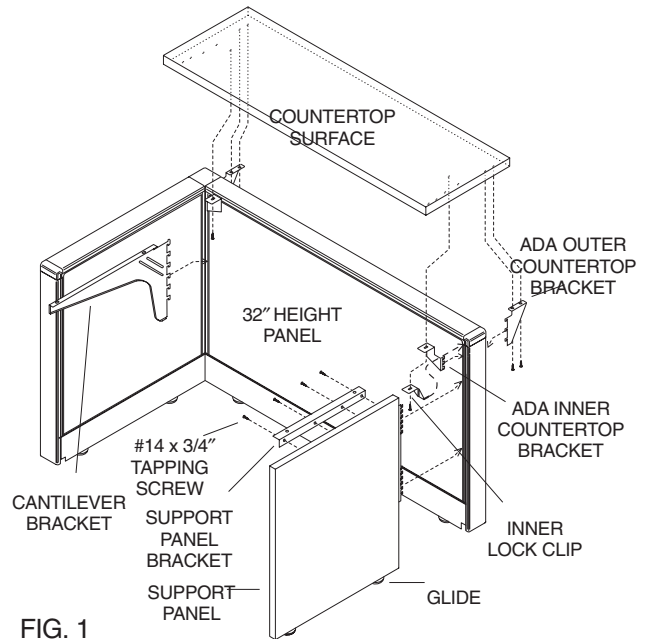

FIG. 1
9. Retract the glides on the worksurface support panel completely. Insert the teeth of the support panel into the trimrail grooves so that the top of the support panel is approximately 28-3/8" from the floor. Adjust the glides down to the floor pushing the panel and teeth up to lock the support panel in place (Approximately 28 9/16" from floor) (Figure 1).